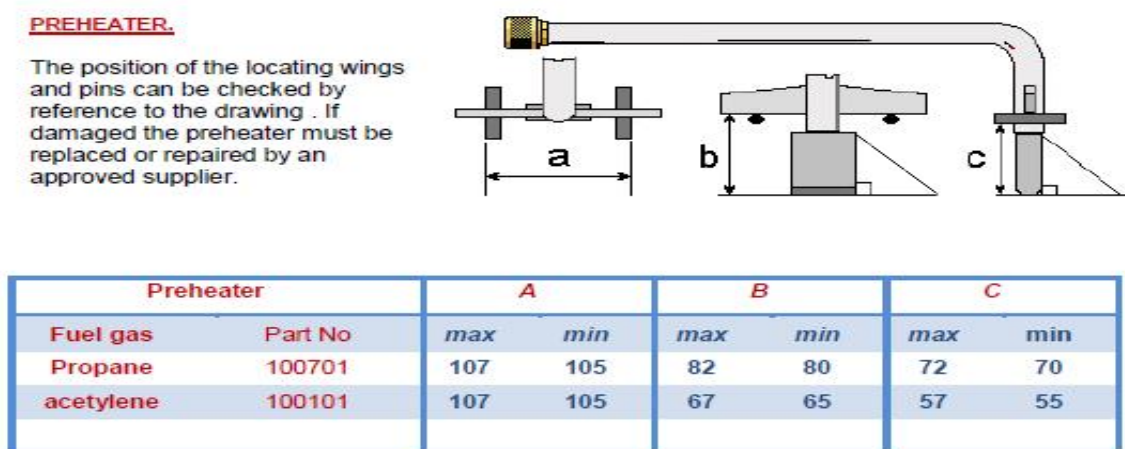

Figure 1
The dimensions specified in figure 1 at positions A, B, C shall be checked using the Lawton Tools combination gauge.
3.3 All dimensions (with the exception of the width across the pins and length of pins) are taken from the base board surface and comply with Thermit's specification as shown in figure 1. Please note: extra to Thermit's own standard instruction, it is required that the length of the pins should also be checked. This is achieved by using the two recesses within the gauge marked Pin Min and Pin Max.